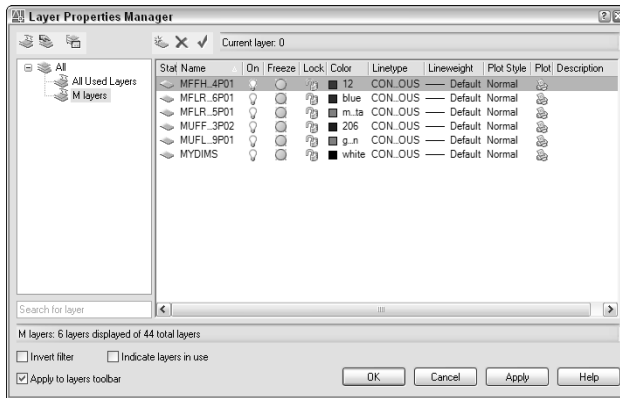

**Figure 11-16:** The Layer Properties Manager now shows only layers starting with the letter *M*.
4.  Click the New Property Filter button. In the Filter Name text box, type **M layers**. In the Name column, type **m\*** (the asterisk is already there, so just type **m** before the asterisk) to list all layers starting with the letter *M*. Click OK. The layer list now looks like Figure 11-16.